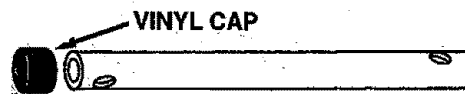

FIGURE 18
- Assemble a vinyl cap onto each bag arm tube as shown in figure 18.